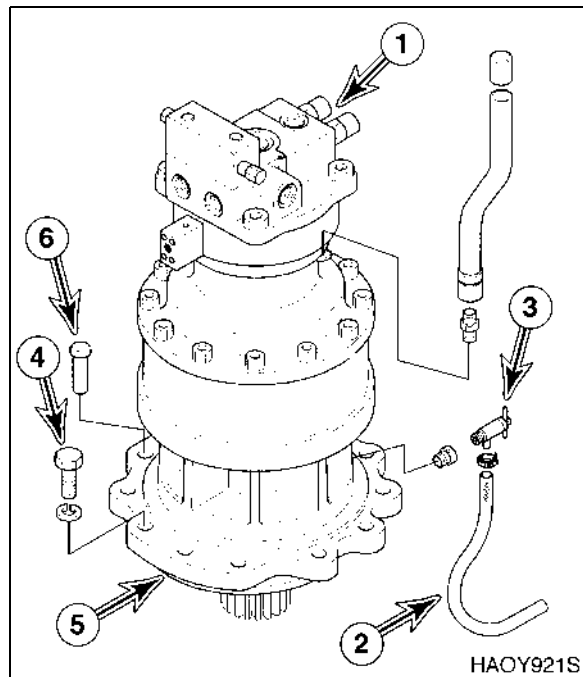

Figure 57
2. Make sure alignment pin (6) is installed in flange of swing reduction gearbox (5).
3. Using a suitable lifting device, sling swing motor (1, Figure 57) and position swing motor and reduction gearbox (5) as an assembly on unit.
4. Install eleven bolts and washers (4, Figure 57) to secure swing reduction gearbox (5) to frame.
5. Connect tube (2) to drain valve (3)
6. Connect hoses as tagged during removal to swing motor (1, Figure 57).